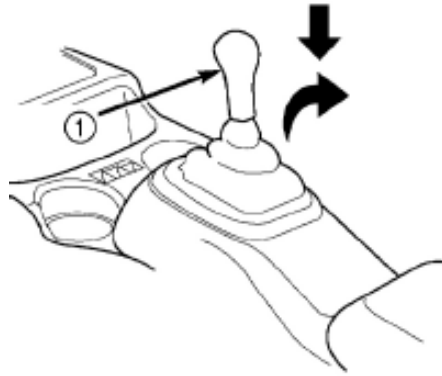

Figure 3-107 Disassembly of shift lever knob/dust cove
- (1) Lift the hook and remove battery negative cable.
- (2) Remove selector lever knob.
- (3) Remove shifting sleeve and sleeve gasket (Figure 3-107).
(13) Mount the gear change hand lever /dust cover assembly on the support saddle. The knob shall be placed in the position shown in the Figure by push it downward to combine the spring and screwing it in clockwise (Figure 3-107).
(14) Fix the sleeve gasket on the auxiliary fascia console.
(15) Put the transmission cover back to the original position (around the knob orifice).
(16) Assemble air cleaner /battery;
(17) Connect battery negative cable.